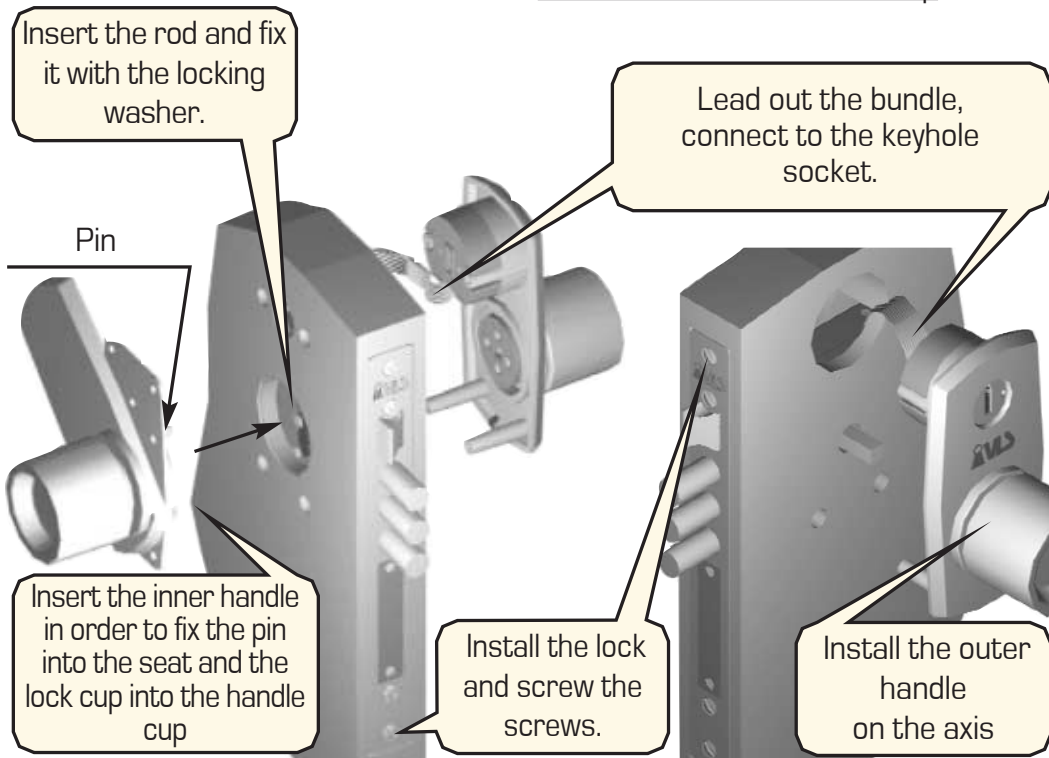

Figure 14 – Installation of the lock on the door
15. Install the lock into the prepared seat in the door, lead out the plug through upper hole towards the outer handle (fig. 14).